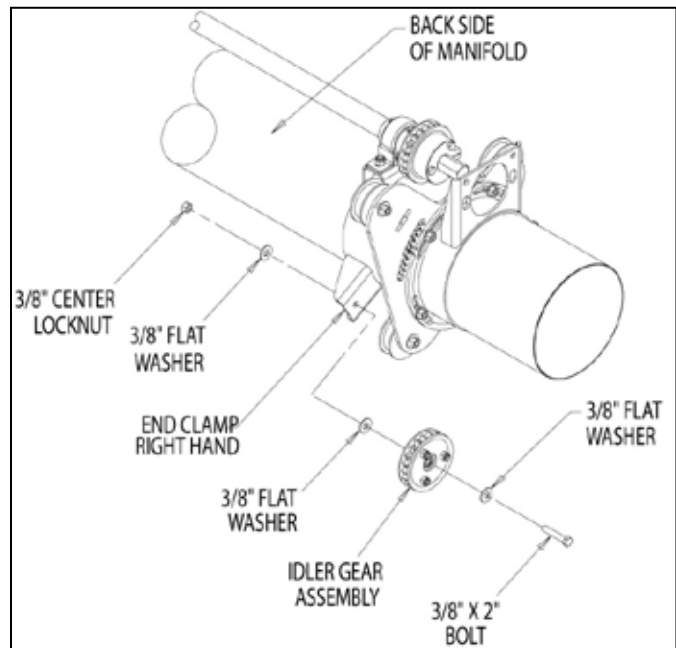

Figure 12, Rear idler gear assembly (RH end shown)
- Assemble one idler gear assembly each to the RH & LH end clamps, and to all idler mount clamps (back side of manifold only) using one 3/8" X 2" bolt, three 3/8" flat washers and one 3/8" center locknut per each idler gear assembly (Figure 12).